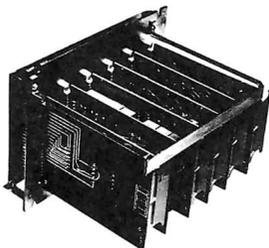

FIGURE 1. K-347 (C) 962 Key Telephone Unit, Front View Shown with K-316 (A) 962 installed.
- 1.01 This practice provides the application, description, installation and maintenance procedures for the ITT-Telecommunications Type K-347 B and C Key Telephone Units. The K-347 B and C KTU's are used in 1A1 and 1A2 Key Telephone Systems to provide touch-tone dial selective intercom. See Figures 1 and 2.